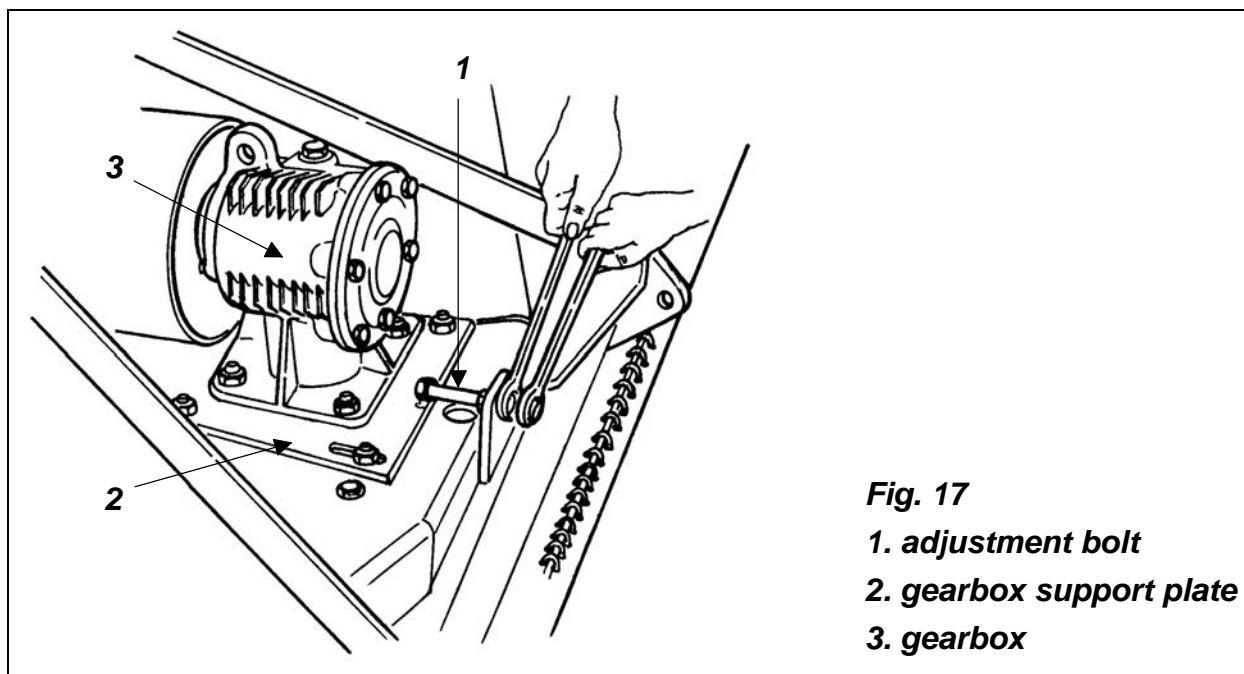

Fig. 17
To adjust the tension do the following (**see fig. 17**):
4. Turn the adjustment bolt counter clockwise, pushing the gearbox support plate forward until all tension is released (**see fig. 17**).
2. Loosen the nuts holding the gearbox support plate (**see fig. 17**).
3. Loosen the nut and turn the bolt in order to push the gearbox forward and release tension on the belts (**see fig. 17**).
7. Unbolt the nuts holding the gearbox support plate to the central plate (**see fig. 17**). Remove gearbox and gearbox support plate.